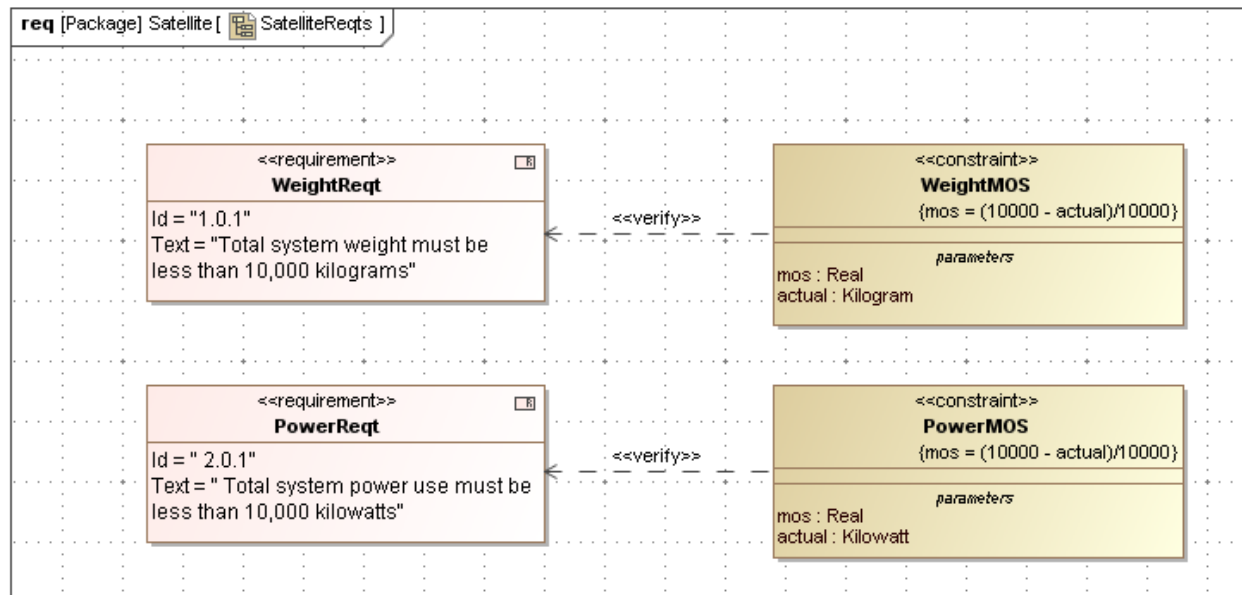

Figure 3.4 SysML Requirements Diagram
- f. Repeat step e. for **PowerMOS** (see Figure 3.4 for specifics)